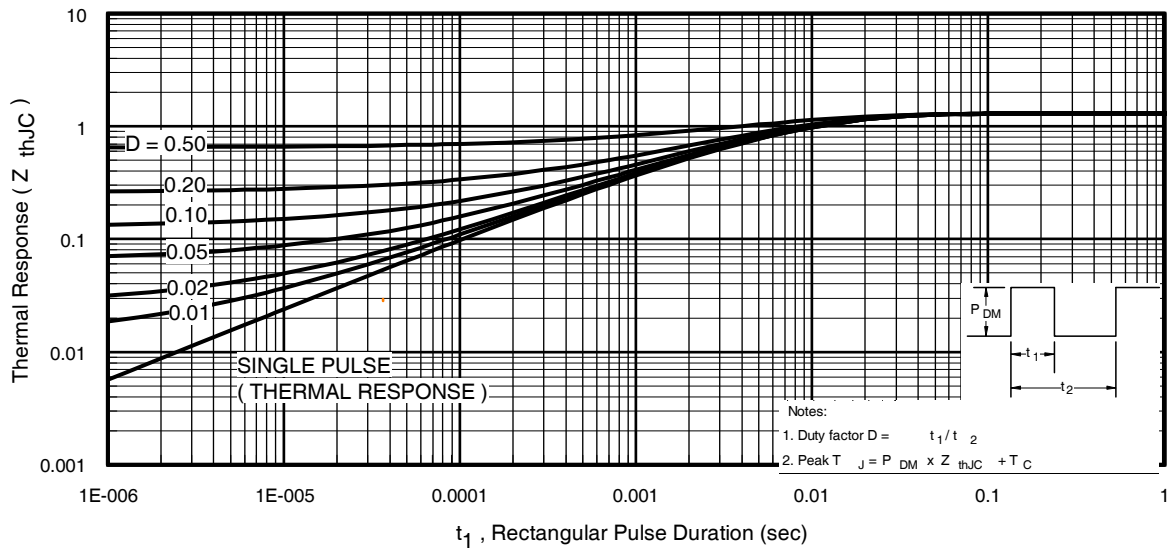
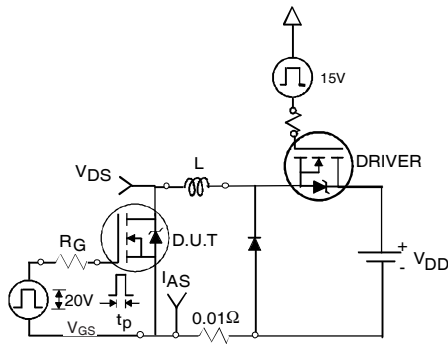

Fig 11. Maximum Effective Transient Thermal Impedance, Junction-to-Case
Fig 12a. Unclamped Inductive Test Circuit
- ① Repetitive rating; pulse width limited by max. junction temperature. (See fig. 11).
- ② Limited by T_{Jmax} , starting $T_J = 25^\circ\text{C}$, $L = 0.71mH$, $R_G = 25\Omega$, $I_{AS} = 23A$, $V_{GS} = 10V$. Part not recommended for use above this value.
- ③ $I_{SD} \leq 23A$, $di/dt \leq 400A/\mu s$, $V_{DD} \leq V_{(BR)DSS}$, $T_J \leq 175^\circ\text{C}$.
- ④ Pulse width $\leq 1.0ms$; duty cycle $\leq 2\%$.
- ⑤ $C_{oss \text{ eff.}}$ is a fixed capacitance that gives the same charging time as C_{oss} while V_{DS} is rising from 0 to 80% V_{DSS} .
- ⑥ Limited by T_{Jmax} , see Fig. 12a, 12b, 15, 16 for typical repetitive avalanche performance.
- ⑦ This value determined from sample failure population, starting $T_J = 25^\circ\text{C}$, $L = 0.71mH$, $R_G = 25\Omega$, $I_{AS} = 23A$, $V_{GS} = 10V$.
- ⑧ When mounted on 1" square PCB (FR-4 or G-10 Material). For recommended footprint and soldering techniques refer to application note #AN-994.
- ⑨ Calculated continuous current based on maximum allowable junction temperature. Package limitation current is 30A.
- ⑩ R_θ is measured at T_J of approximately 90°C .
3. Equation below based on circuit and waveforms shown in Figures 12a, 12b.
$Z_{thJC}(D, t_{av})$ = Transient thermal resistance, see figure 11)